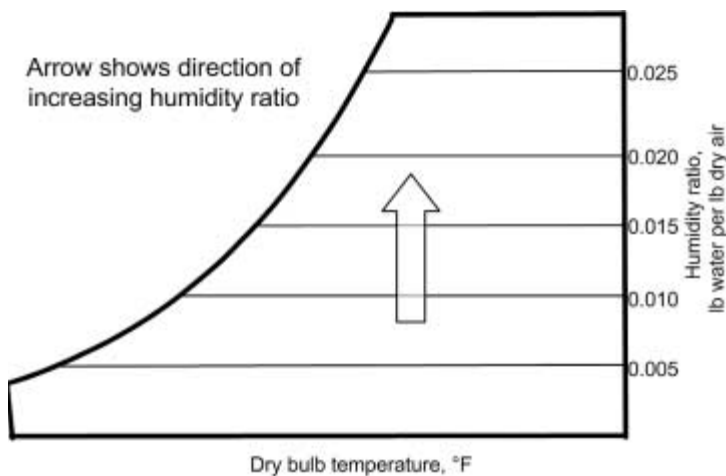

FIGURE 2.4 Psychrometric chart showing lines of constant humidity ratio.
- The *humidity ratio* is the mass of water per mass of dry air; for example, lb. H₂O per lb. dry air. This is sometimes expressed as grains of water per pound of dry air (there are 7000 grains per pound.) Figure 2.4 shows how the humidity ratio varies on the psychrometric chart, and Table 2.2 gives the humidity ratio for sea level and high altitude cities.